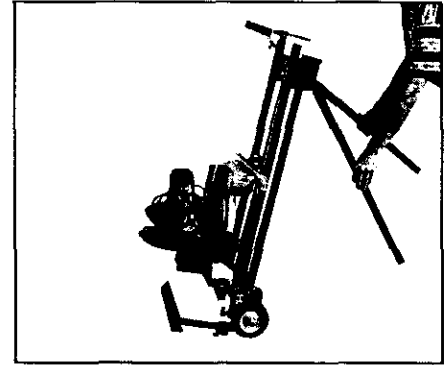

Figure 18
5. Depress the snap buttons on the remaining 2 legs. Fold the legs down until they nest neatly under the frame and the snap buttons engage the frame. Figure 18.